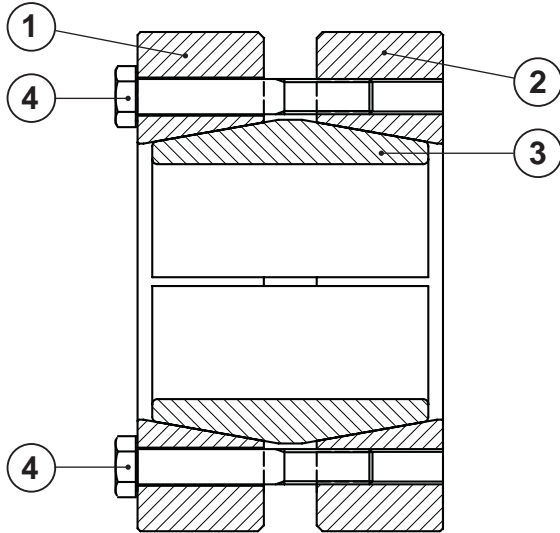

Figure 1
INSTALLATION (Refer to Figure 1)
REMOVAL (Refer to Figure 1)
DO NOT completely remove locking screws (4) before outer collars (1, 2) are disengaged from inner ring (3). A sudden release of the outer collars involves high separating forces and could result in permanent injury or death. Be certain that outer collars are disengaged from inner ring before completely removing locking screws. **Refer to Figure 1.**